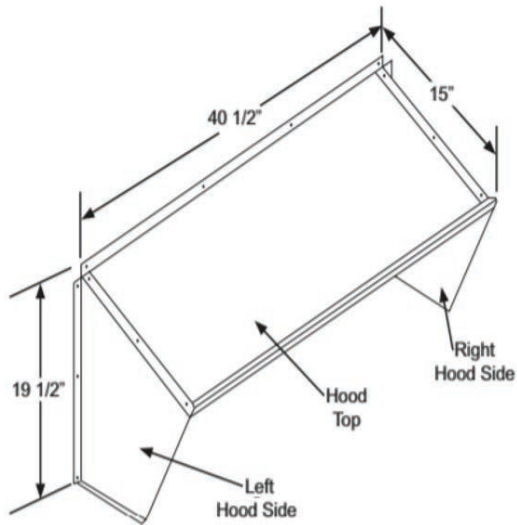

Fig. 22 — CRBARHOD001A00 Hood Sides and Top
5. Using the provided hardware, screw the CRBARHOD001A00 hood sides and top together (see Fig. 22).